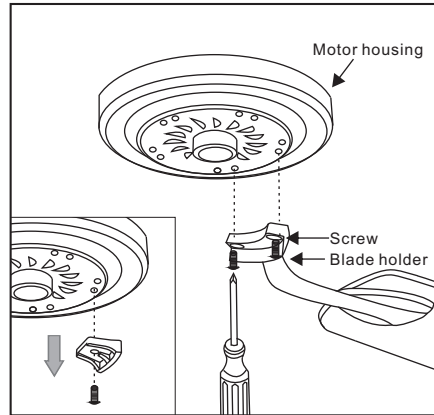

Figure 16
3. Remove the plastic blocks before installing the blade holder to the bottom motor housing, discard the plastic blocks but keep the screws. (Figure 16).
4. Fasten the blade assemblies to motor housing by tightening the screws previously removed from the motor housing and the screws from the loose parts bag(C). (Figure 16)